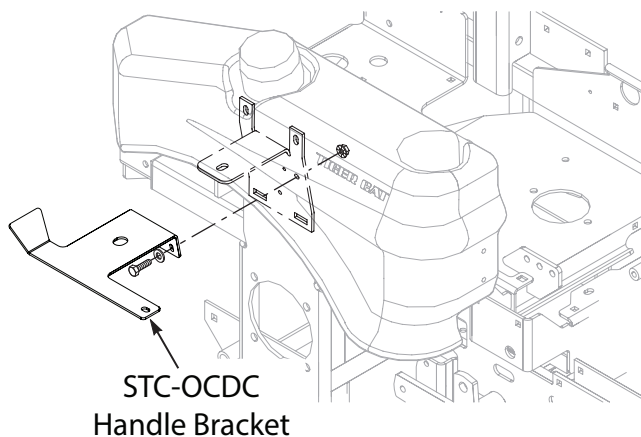

Figure 3-14. STC-OCDC Handle Bracket Install
2. Install the OCDC handle bracket to the right hand fuel tanks mounting bracket as shown in Figure 3-14. Secure using two (2) 5/16-18 x 1" bolts, two (2) 5/16" flatwashers and two (2) 5/16-18 serrated flange nuts as shown in Figure 3-14. Proceed to step #5.